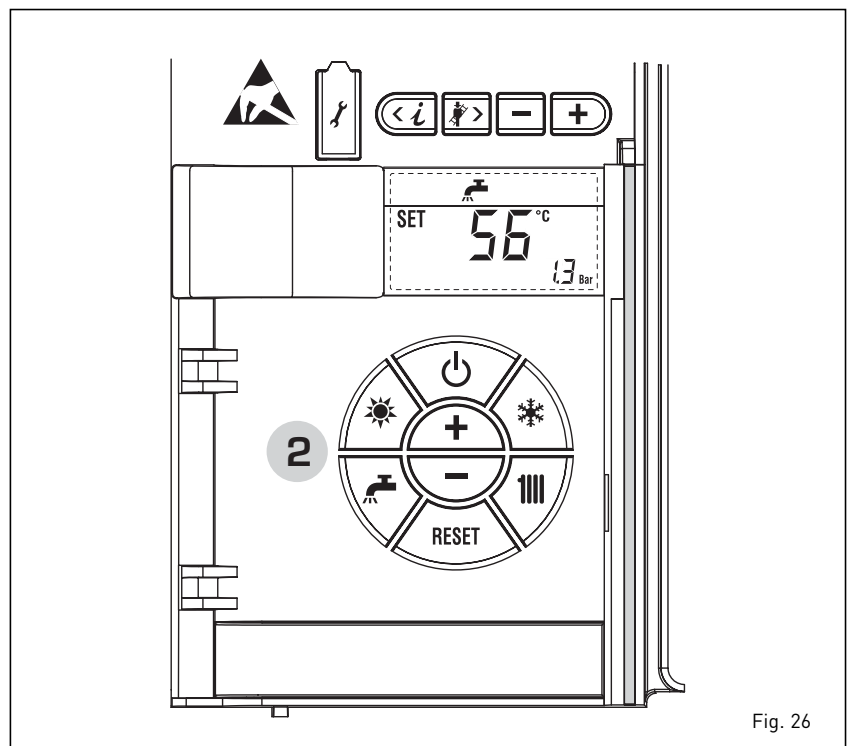

Fig. 26
**1.3.3 Regulation D.H.W. temperature (fig. 26)**